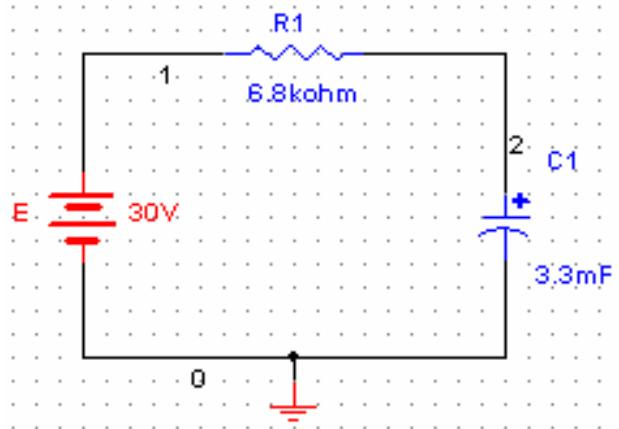
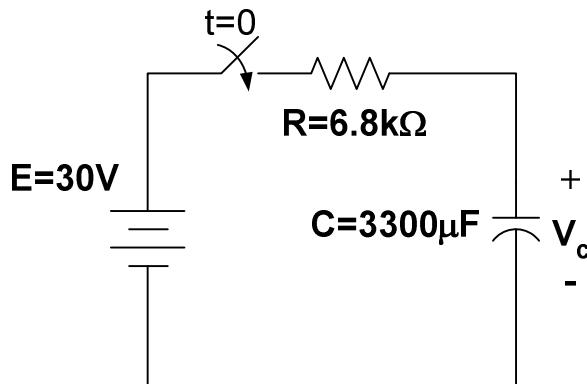

Figure 2: RC circuit for simulation on Multisim Electronics Workbench
Figure 3: RC circuit for hardware experiment
- Build the circuit given in Figure 3 with laboratory hardwired components. Note that this circuit is the same as in Figure 2 except the switch.